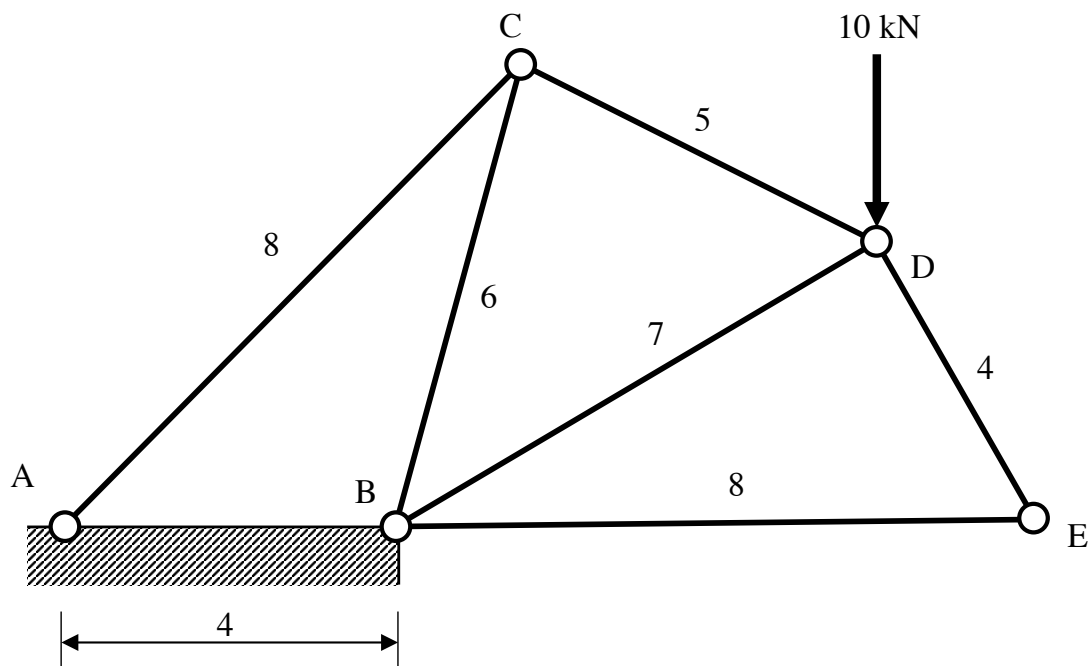

Fig. 5
5 (**long**) Figure 5 shows a cantilevered structure anchored to the ground at frictionless pin-joints A and B. A vertical load of 10 kN is applied downwards at joint D. The figure is drawn to scale and the bar lengths shown in the figure are in metres. All bars have the same cross-sectional area (A) and Young's modulus (E) so that $AE = 10^7$ N.